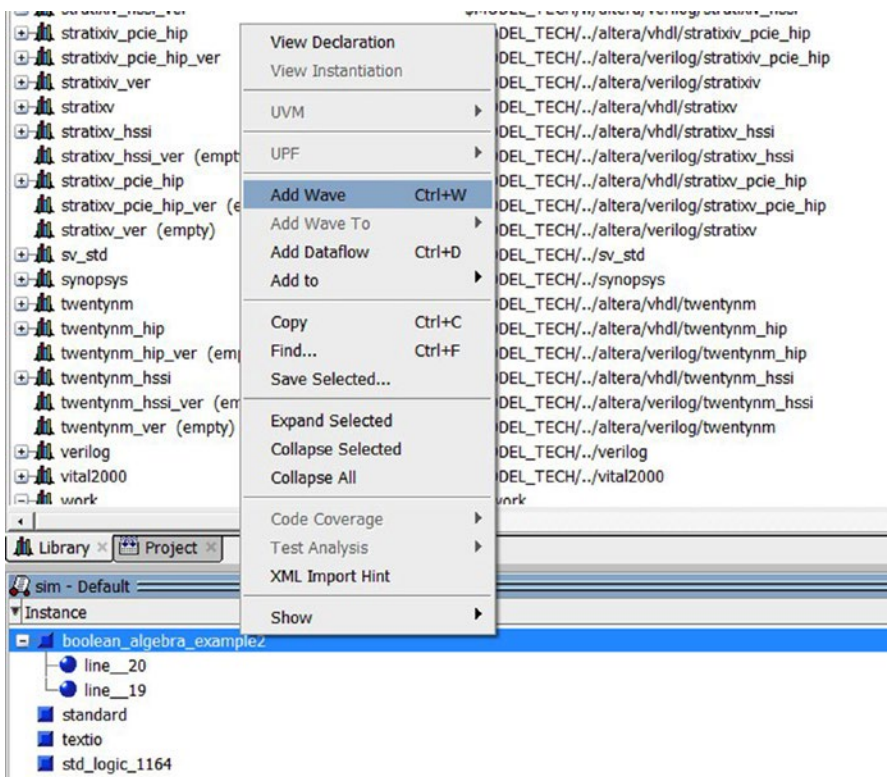
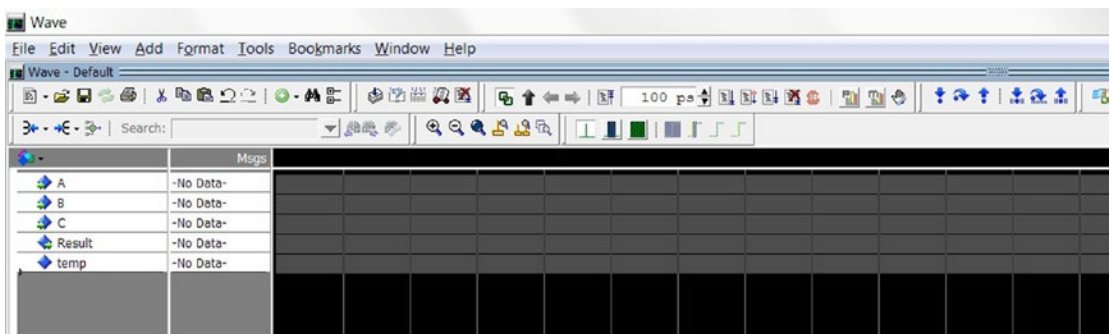

Figure 8-15. Adding signals to the wave windows
Figure 8-16. Wave window shows all the signals
10. We need to add signals to the wave windows to see what is happening. Right-click **boolean_algebra_example2** in the sim window and select **Add Wave**. Or type **add wave -position insertpoint sim:/boolean_algebra_example2/*** in the transcript (tool command language (tcl) window). See Figure 8-15. Figure 8-16 shows all of the signals in the design (A, B, C, Result, and temp)